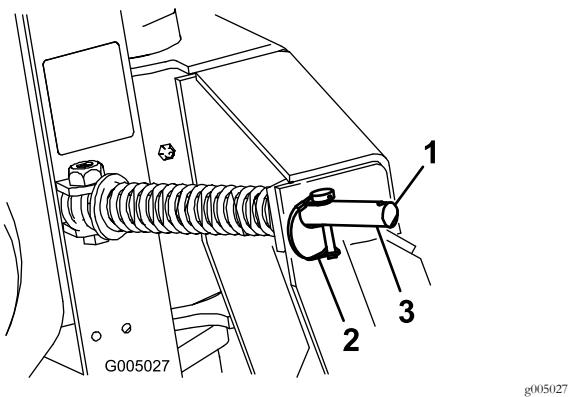

Figure 5
1. Move the lynch pins to the outside holes on the spring rods to allow the plow to move from side to side (Figure 5).
- Move the lynch pins to the inside holes on the spring rods to prevent side-to-side movement (Figure 5).